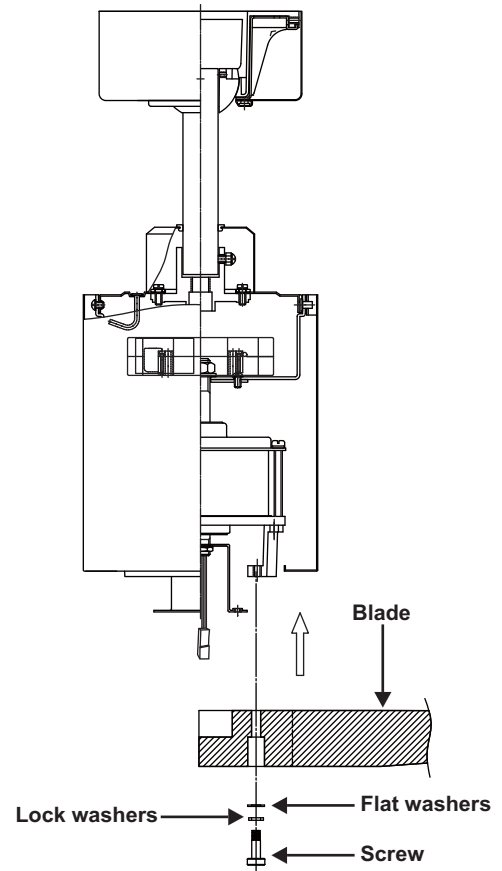

Figure 14
1. Fasten blade to motor using the flat washers, lock washers and screws supplied. (Fig. 14)